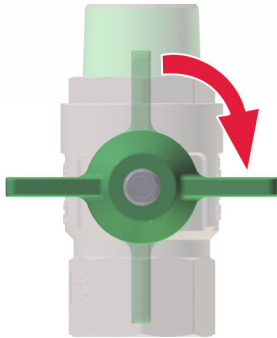

Fig. 31: Main shut off valve closed
- Close the main shut off valve (Fig. 31) for the supply line to the pump to ensure no water can flow through the pump.